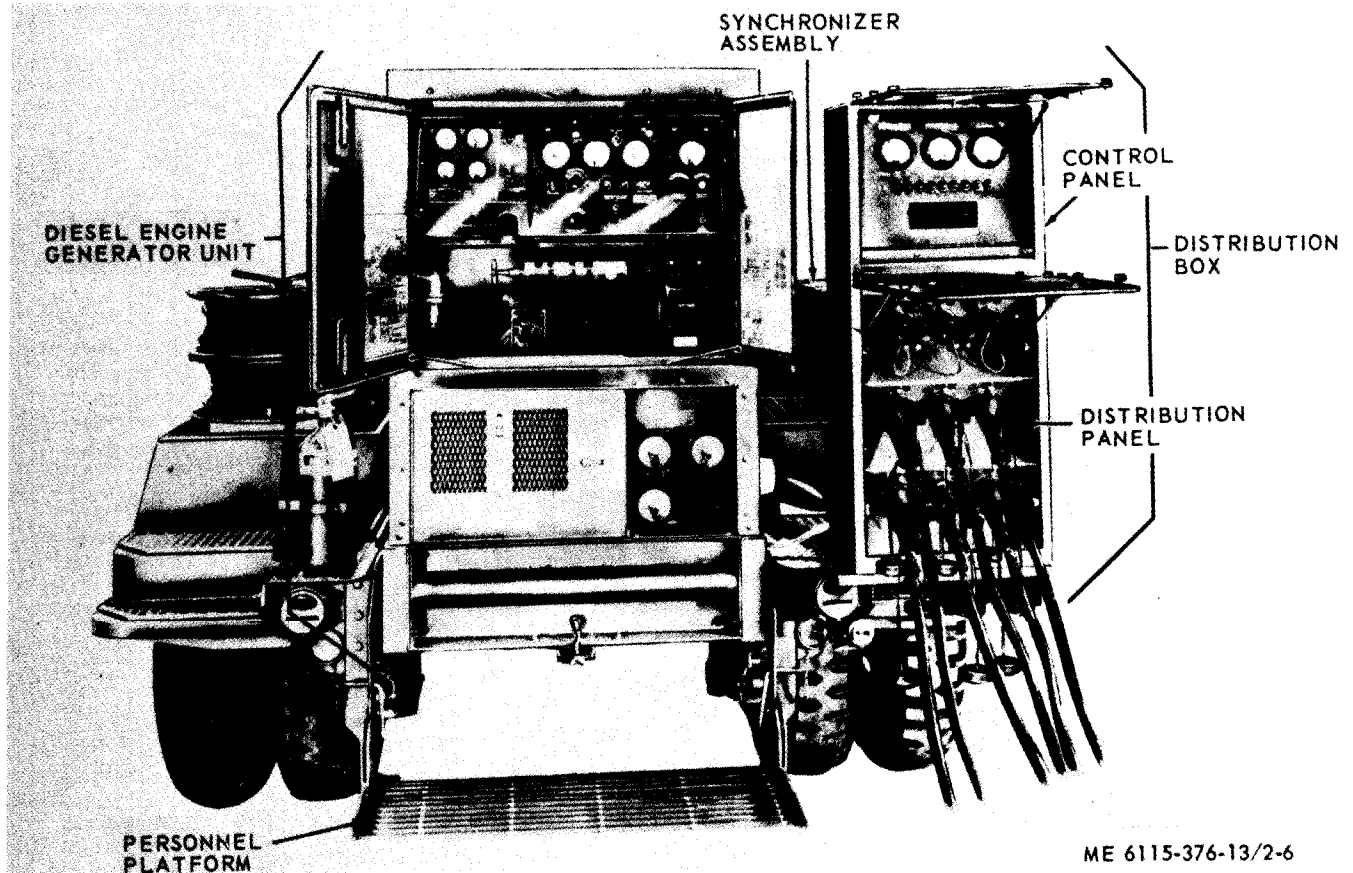

Figure 2-6. Trailer mounted DE generator set PU-407/M, ready for operation.
ponents and their location, Refer to figure 2-6 for the PU-407/M setup ready for operation,
(1) Perform procedures, given in c above.
(2) Momentarily place field flashing switch located below frequency meter (fig. 2-6) in upward position.